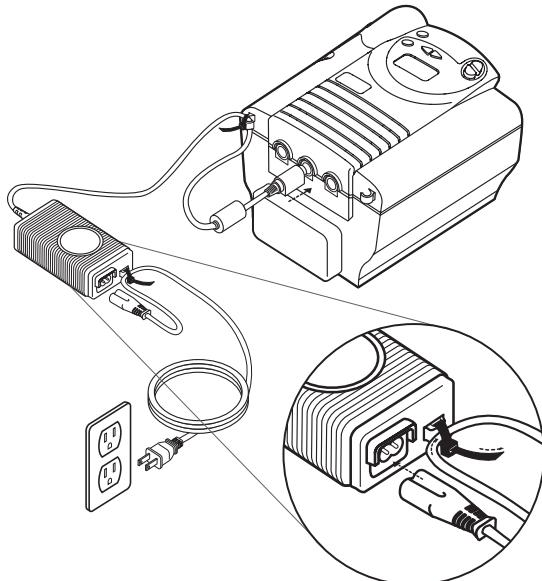

Figure 5–8 Plugging in the AC Power Supply
3. Leaving a small amount of slack in the cord, connect the cord on the other side of the power supply to one of the power inlets on the device, as shown in Figure 5–8. The power cord has a locking connector. To properly plug the cord in: